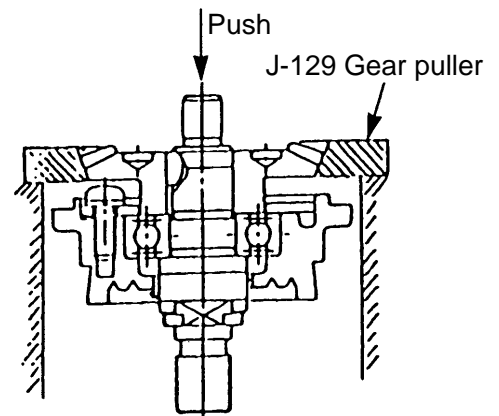

Fig. 4
- (1) Loosen the M4 x 12 Seal Lock Screws **[23]**, and remove the Packing Gland **[22]** together with the Spindle **[25]**, and Gear **[17]** from the Gear Cover Ass'y **[4]** in a single body.
- (2) As illustrated in Fig. 4, support the angled surface of the Gear **[17]** with a J-129 gear puller (special repair tool, Code No. 970905), rest the J-129 gear puller on a J-130 sleeve (special repair tool, Code No. 970907), and push down on the tip of the Spindle **[25]** with a hand press to remove the Gear **[17]**.